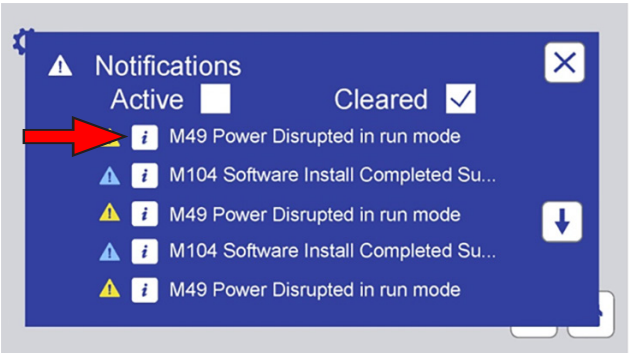

Figure 10.4f: Touch the information icon to display notification details.
- Touch the notification information icon to display details (Figure 10.4f through Figure 10.4j).